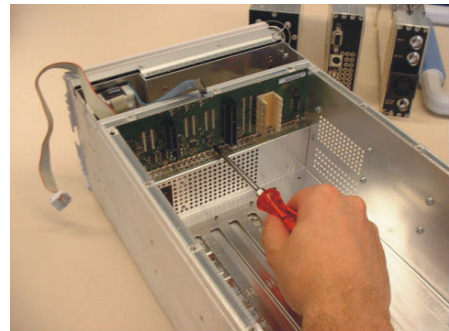

Figure 1-37
9. Undo 10 screws (see Figure 1-37).